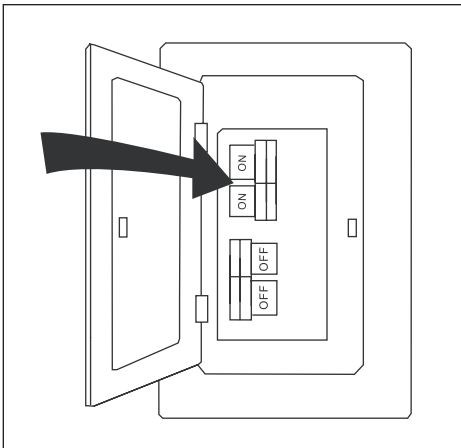

Figure 5.7
7. Turn on power to fan at breaker box and the wall switch (Figure 5.7). Assembly is complete.